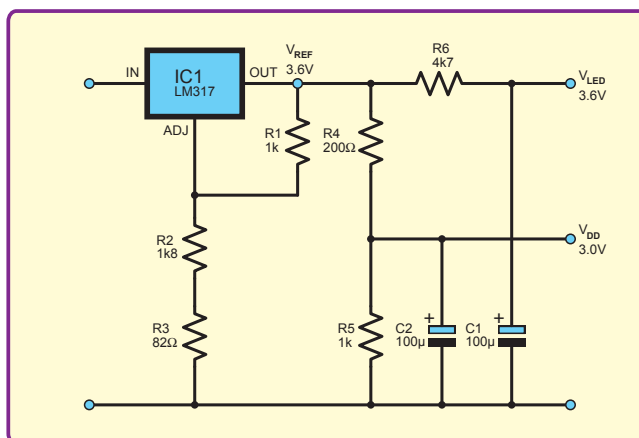

Fig.1. Circuit referred to by jameselstone in his Chat Zone question.
**E**CHOING last month's power supply theme, we have a question from EPE Chat Zone ([www.chatzones.co.uk](http://www.chatzones.co.uk)) user **jameselstone**. His question is about voltage dividers and relates to the regulator circuit shown in Fig.1.
*What are the pro and cons of this? Any advice? (See Fig.1)*
For Jameselstone's circuit we have, as indicated on Fig.1: